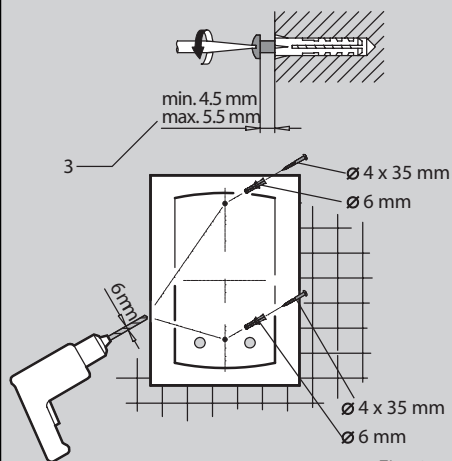

Fig. 6
3. Depth for mounting screw (Fig. 6 No.3)
- Place a drilling guide at the drilling position in order to drill a hole in the wall (Fig. 6).
- Insert a wall plug and screw in (the depth of the protruding screw head must be correct) (Fig. 6 No.3).